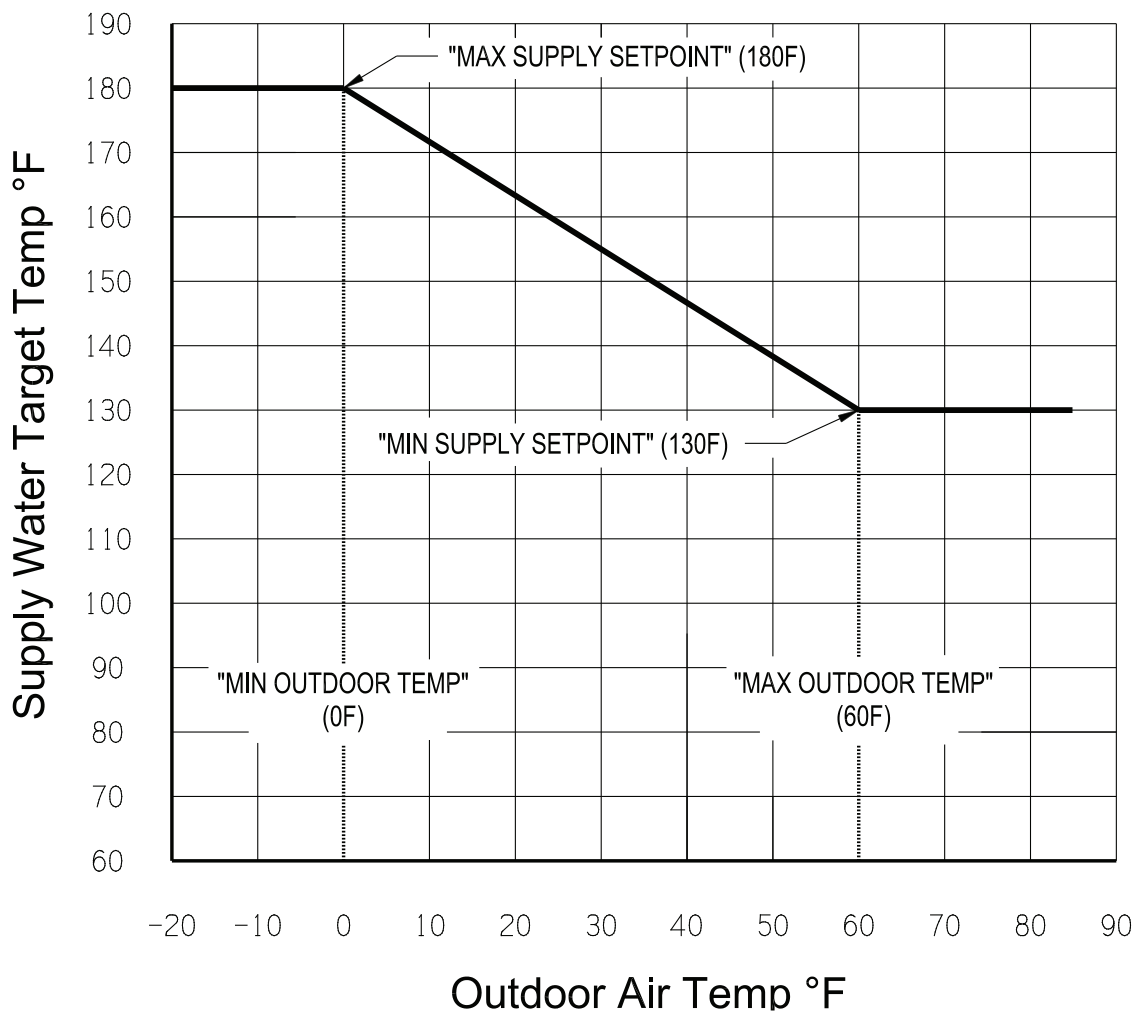

Figure 12.9: Outdoor Reset Curve (Default Settings Shown)
- **WWSD Enabled** - When the outdoor temperature is above the WWSD Outdoor Temperature setting, the boiler will ignore a call for space heat (CH) from the thermostat.
- \* The target water temperature is 6°F below the top of the reset curve (174°F in the example shown in Figure 12.9)
- b) If outdoor reset is enabled, there are a total of four settings that can be changed (also see Figures 12.9 and 12.10):
- b) **Setpoint** - Current CH setpoint obtained from outdoor reset curve (Figure 12.9).